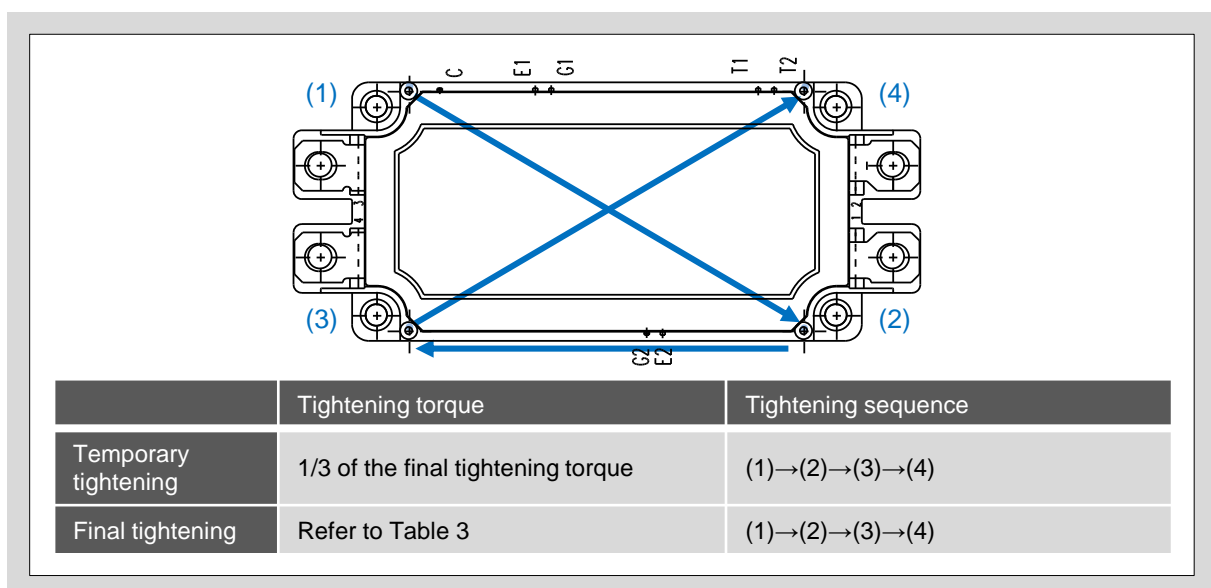

Figure 5. Tightening torque and tightening sequence
2. To fix the PCB with even force, first perform temporary tightening with 1/3 of the final tightening torque. Figure 5 shows the tightening sequence.